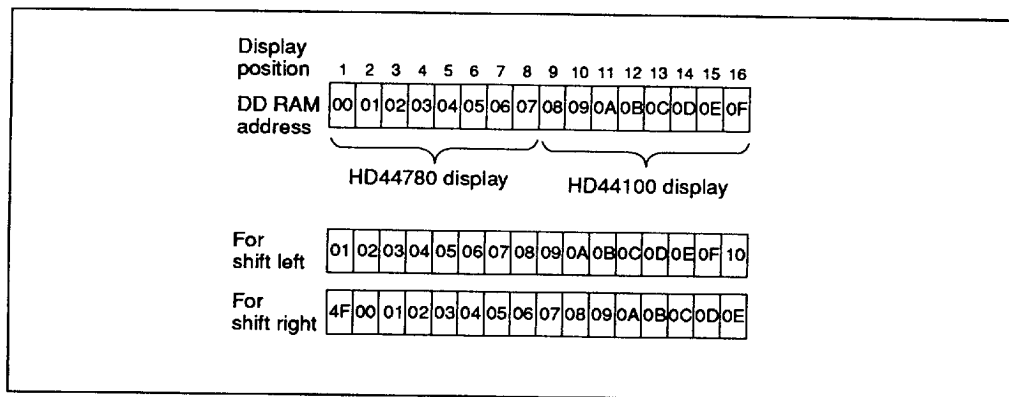

Figure 4 1-Line by 16-Character Display Example
- Case 2: For a 16-character display, the HD44780 can be extended using one HD44100 and displayed. See figure 4.
When the display shift operation is performed, the DD RAM address shifts. See figure 4.